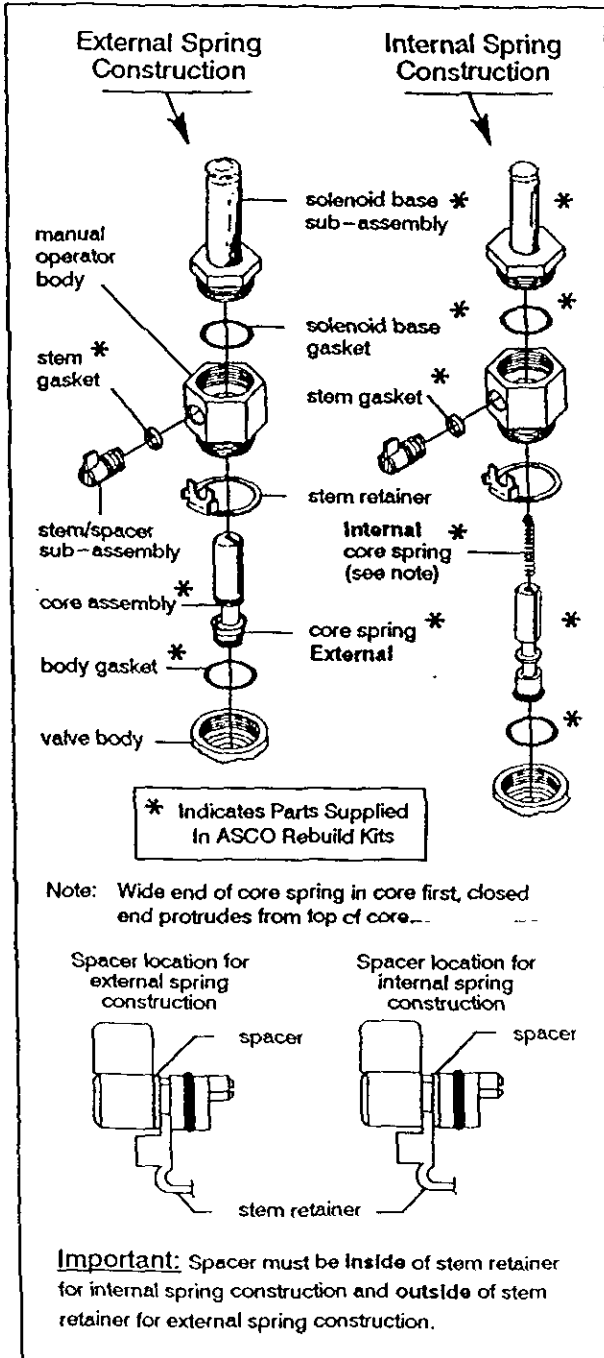

Figure 3. Stem/lever type manual operators
4. For normally open construction (Figure 3) remove end cap, or manual operator, (not shown) end cap gasket, disc holder spring, and disc holder assembly.
3. For normally open construction (Figure 3), install disc holder assembly, disc holder spring, end cap gasket and end cap or manual operator. For valves with 1/8" NPT, torque end cap or manual operator to  $90 \pm 10$  in-lbs [ $10,2 \pm 1,1$  Nm]. For all other valves torque end cap or manual operator to  $175 \pm 25$  in-lbs [ $19,8 \pm 2,8$  Nm].
### Disassembly and Reassembly of Stem /Lever Type Manual Operator (Refer to Figure 3)